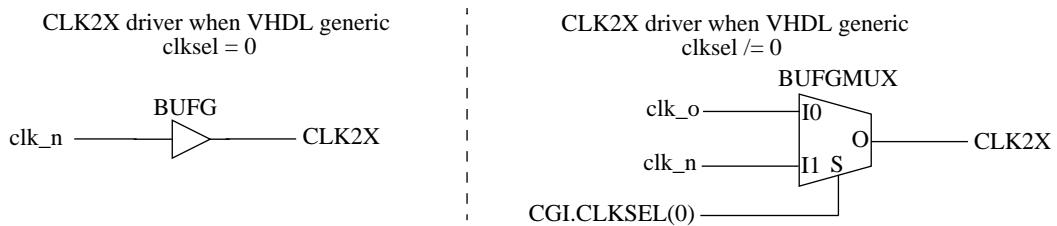
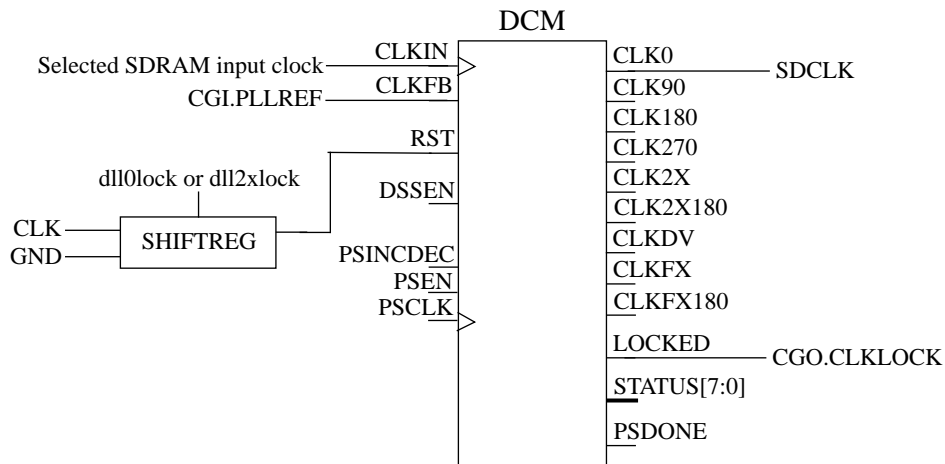

Figure 48. Spartan 3/e selection of CLK2X clock when VHDL generic *clk_{2xen}* is non-zero
Figure 51. Spartan 3/e generation of SDRAM clock
shift register connected to the CLK2X DCM’s RST input are set to ‘1’. When the dll0lock signal is asserted it will take four main clock cycles until the RST input is deasserted. Depending on the value of the *clk_{sel}* VHDL generic the core’s CLK2X output is either driven by a BUFG or a BUFGMUX. Figure 48 shows the two alternatives and how the CGI.CLKSEL(0) input is used to selected between the CLK0 and CLK2X output of the CLK2X DCM.
If the SDRAM clock is enabled, via the *sdramen* VHDL generic, and the clock generator is configured to use clock feedback the DCM shown in figure 51 is instantiated. This DCM has the same attributes as the CLK2X DCM. The input to the SDRAM DCM input clock is determined via the *clk2xen* VHDL generic. If the VHDL generic is set to 0 the input is the main CLK, if the generic is set to 1 the input is the *clk_p* out of the CLK2X DCM shown in figure 48. If the *clk2xen* VHDL generic is set to 2 the clock input to the SDRAM DCM depends on the *clkssel* VHDL generic. The input in this last case is the CLK2X output shown in figure 50.
If the SDRAM clock is disabled (*sdramen* VHDL generic set to 0) or the core has been configured not to use clock feedback (*noclockfb* VHDL generic set to 1) the driver of the core’s SDCLK output is determined by the value of the *clk2xen* VHDL generic. If the *clk2xen* VHDL generic is set to 2, the SDRAM clock output is the same as the CLK2X output shown in figure 48, in other words it also depends on the *clkssel* VHDL generic. If the *clk2xen* VHDL generic has any other value the SDCLK output is the same as the core’s CLK output.